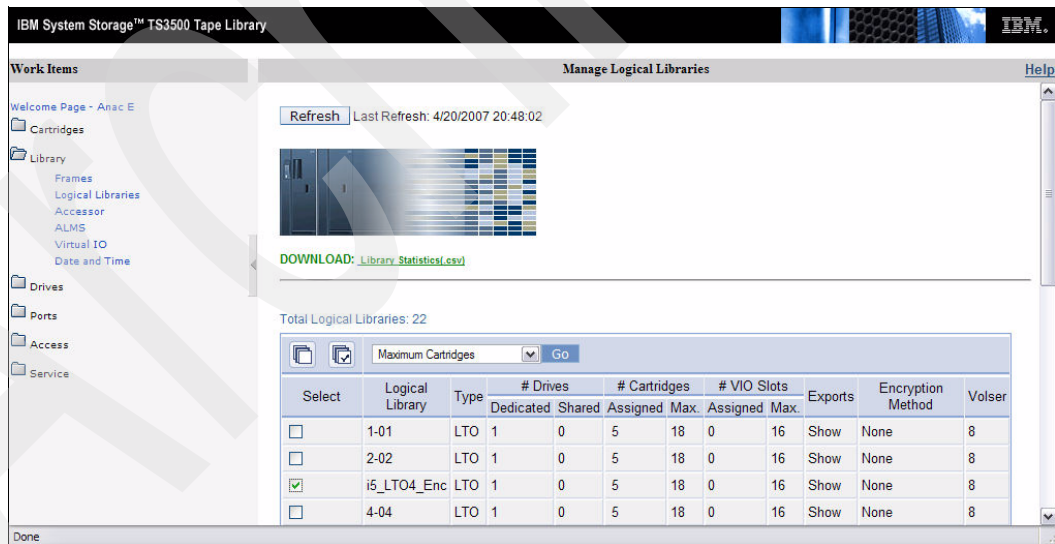

Figure 2-62 Manage Logical Libraries panel Maximum Cartridges option
1. Select **Library** → **Logical Libraries**, select the logical library and select **Maximum Cartridges** from the drop-down menu as shown in Figure 2-62.